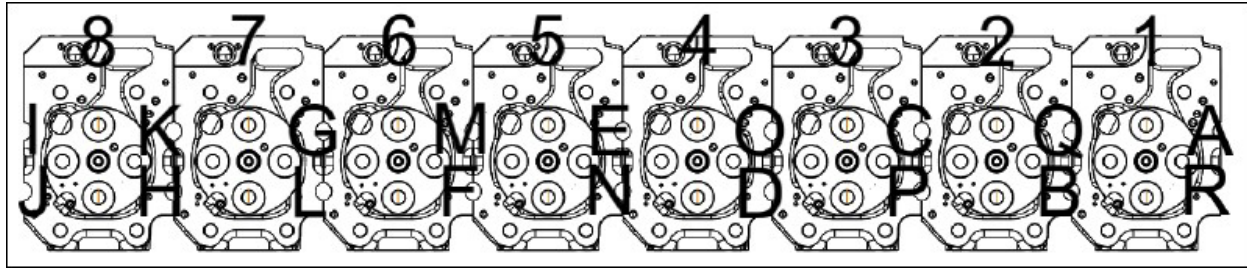

Figure 75. Secondary Bolt Torquing Order
6. Tighten the secondary bolts in order A through R (Figure 75) to 59 ft/lbs.